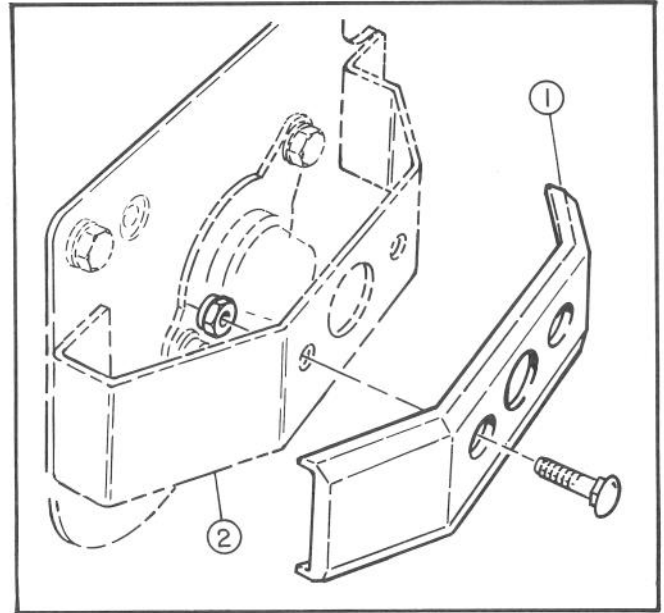

Figure 3
- E. On the #4 and #5 cutting units remove 4 self tapping cover capscrews located at the opposite end of the cutting unit drive housing (Fig. 3). Discard cover screws. Drill four 9/32" holes completely through cutting unit tubes using the self tapping screw holes as a pilot (Fig. 5). Holes will be used later to mount #4 and #5 tipper brackets.